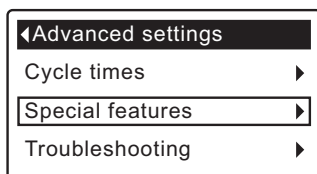

FIG. 77
3. Press the SELECT (O) button to display the Advanced settings menu (See Figure 77).